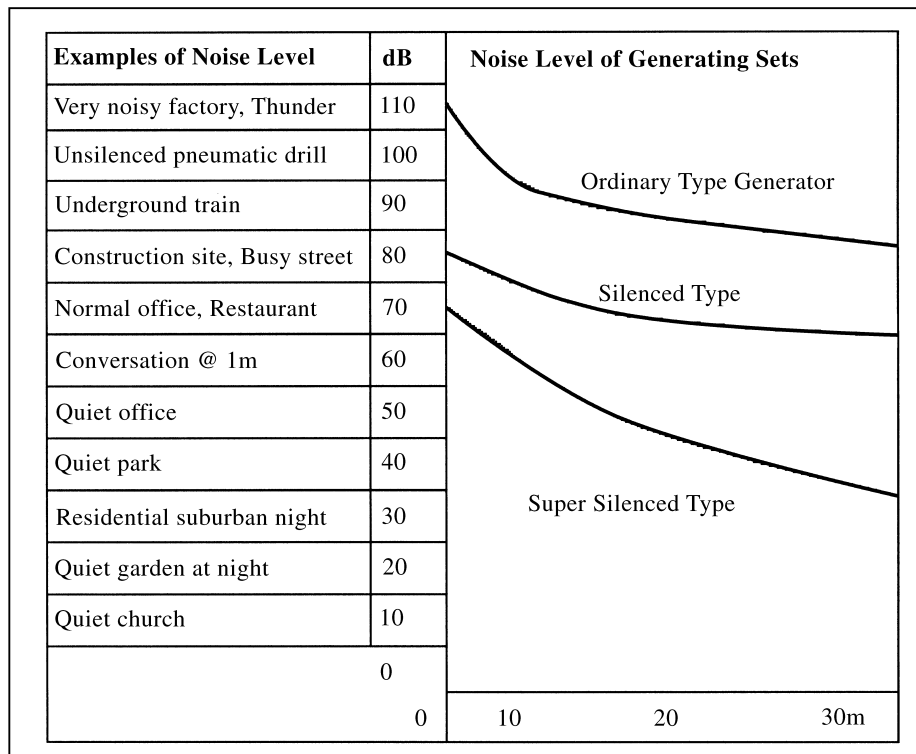

Fig. F21
The standard enclosures are designed to give a noise reduction of 15 to 30 dB(A) and relate to the two standards of silencing produced by Cummins Power Generation ie: (see Fig. F21)